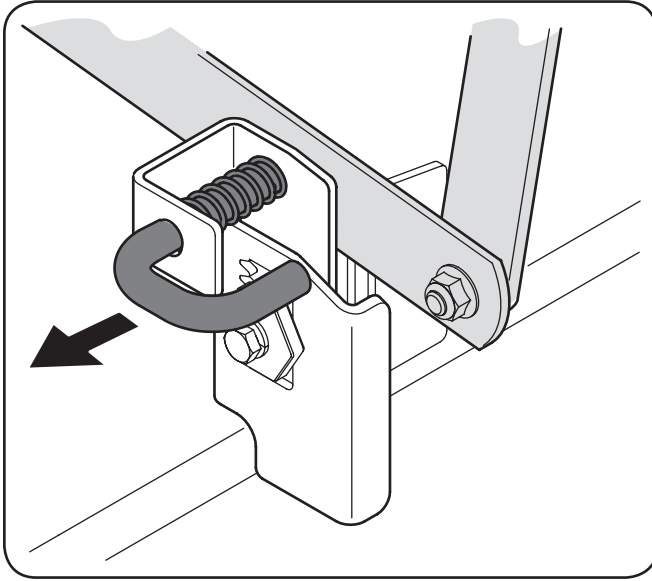

Figure 7-4
8. Pull the deck support pin outward to release the deck from the lift arm. See Fig. 7-4.